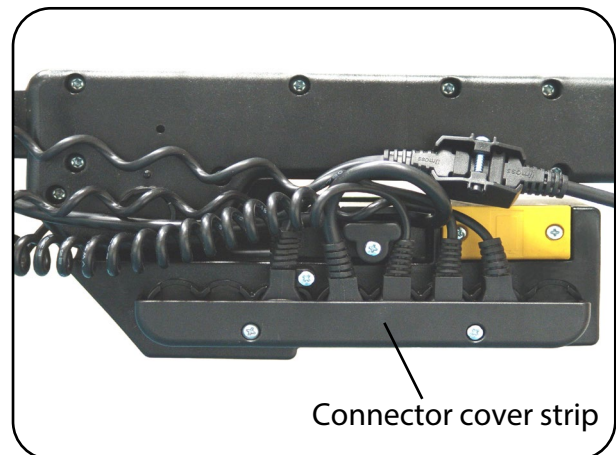

Fig. 6.2.06 – Controller with connector cover strip
5. Screw the connector cover strip to the controller (Fig. 6.2.06).